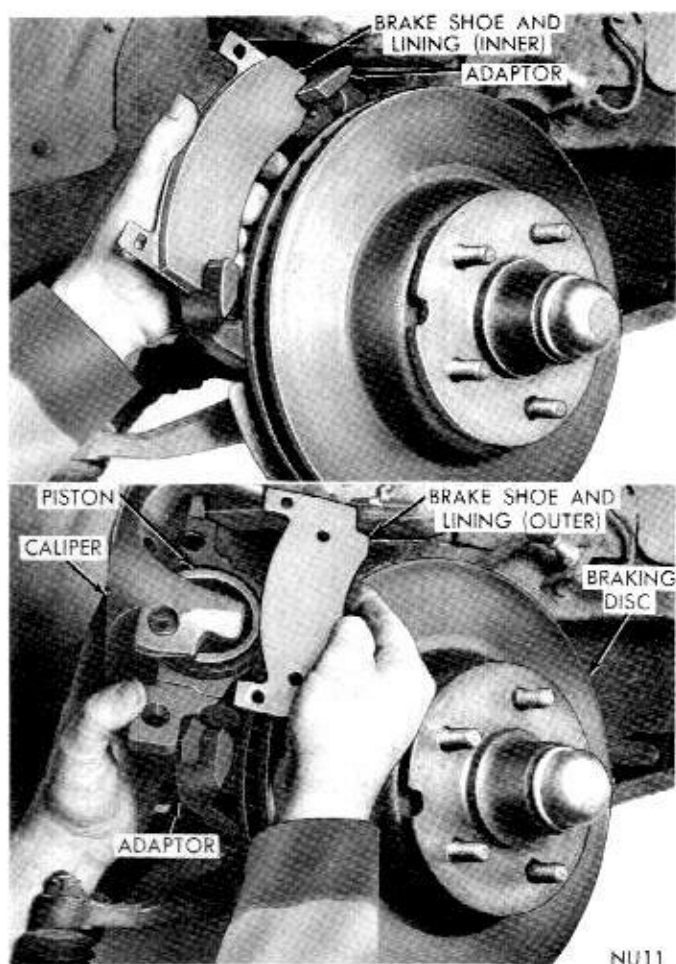

Fig. 8—Removing or Installing Brake Shoes and Lining
- (5) Slide outboard shoe and lining assembly out of caliper. Slide inboard shoe and lining assembly out of adaptor (Fig. 8).
(3) Slide new shoe and lining assemblies into position in adaptor and caliper (Fig. 8), being sure that metal portion of shoe is fully in recess of caliper and adaptor.